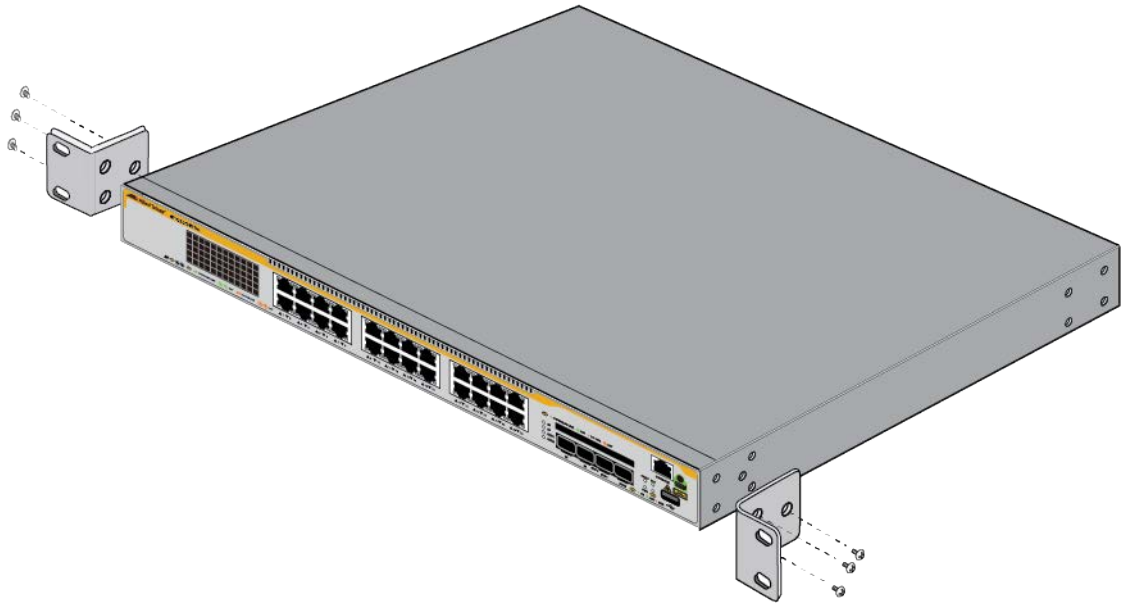

Figure 41. Attaching the Rack Mount Brackets
Figure 41 on page 74 shows how to install the brackets such that the front panel of the switch is even with the front of the equipment rack as an example.
4. Attach the rack mount brackets to the sides of the switch in the selected positions as shown in n Figure 41.
Figure 41 shows the installation of the brackets so that the front panel is even with the front of the equipment rack.
5. Tighten the six M4x8 mm screws to attach the rack mount brackets to the switch. See Figure 41.